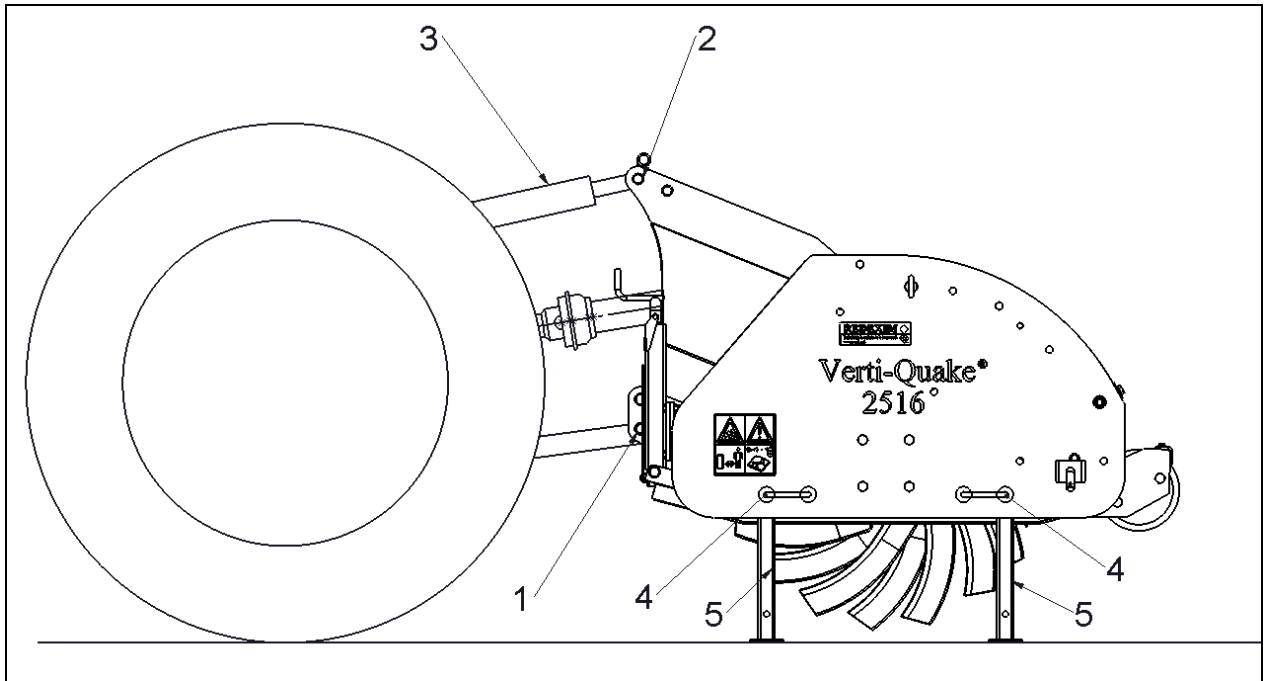

Fig. 9
5.0 CONNECTING TO THE TRACTOR (Fig. 9)
This is done as follows: (fig.9)